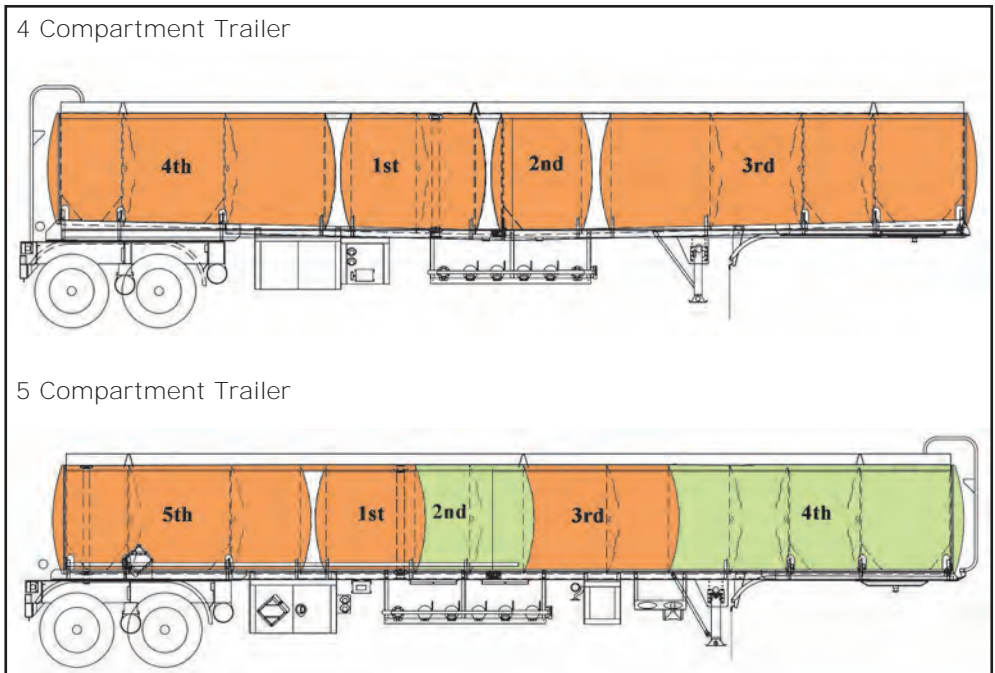

Figure 10. Unloading Sequence
1. Before unloading any compartment, refer to (Figure 10) for the recommended unloading sequence of compartments. If traction is a problem during transportation, reverse the order of the last two compartments.